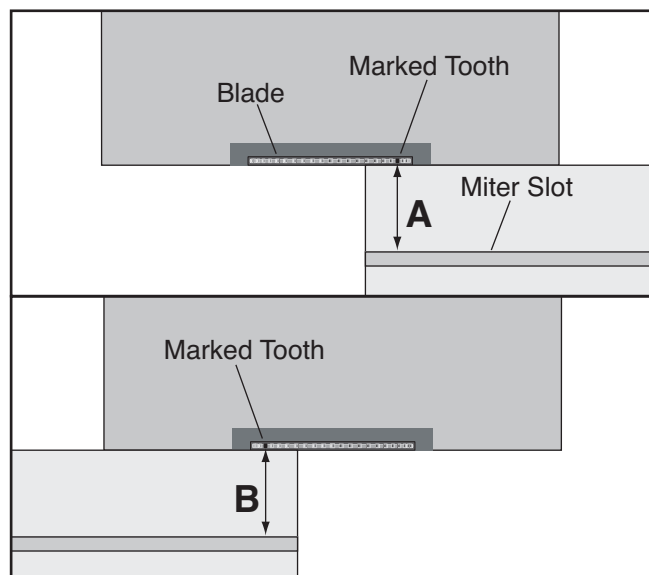

Figure 128. Measuring distance between table and blade.
4. Move the sliding table all the way back, and measure the distance "A" in **Figure 128**, between the marked tooth and the edge of the miter slot.
5. Rotate the blade 180°, move the sliding table all the way forward, and measure the distance between "B" in **Figure 128**.